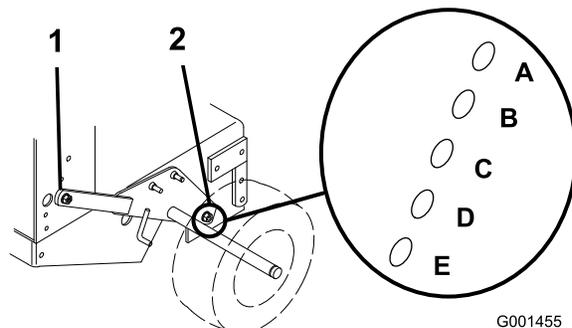

Figure 12
- Loosen, but do not remove, the 2 axle pivot bolts and the 2 axle adjustment bolts (Figure 12).
- Place a jack under the rear center of the engine frame. Raise the back end of the engine frame up enough to remove the front 2 axle adjustment bolts (Figure 12).
- Raise or lower the engine frame with the jack so that you can install the front 2 axle adjustment bolts in the desired hole location (Figure 12).